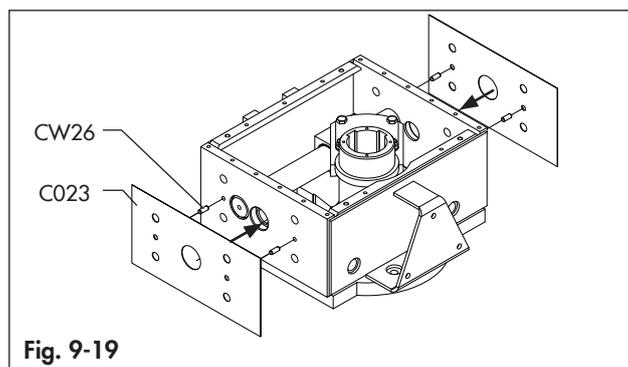

Fig. 9-19
- Place the gaskets (C023) making sure the pins (CW26) are correctly in position over the central module housing (C015) as per Fig. 9-19.